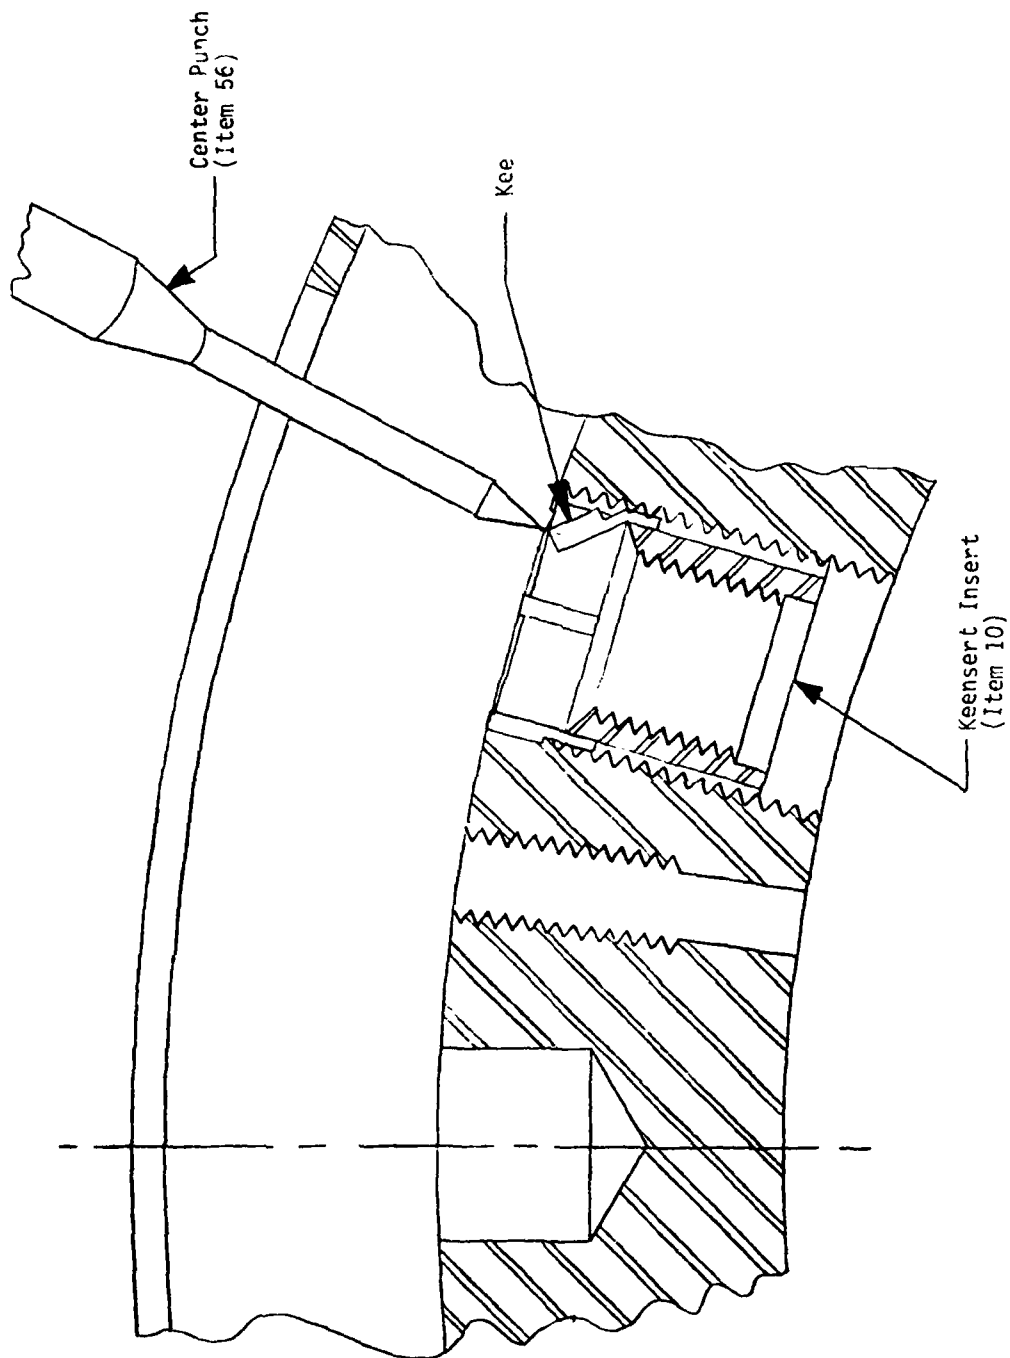

Figure 10. Keensert removal: Break off kees.
5. Use the center punch (Item 56) and a hammer to deflect the kees inward (Figure 10) and either break them off or pull them out with pliers.